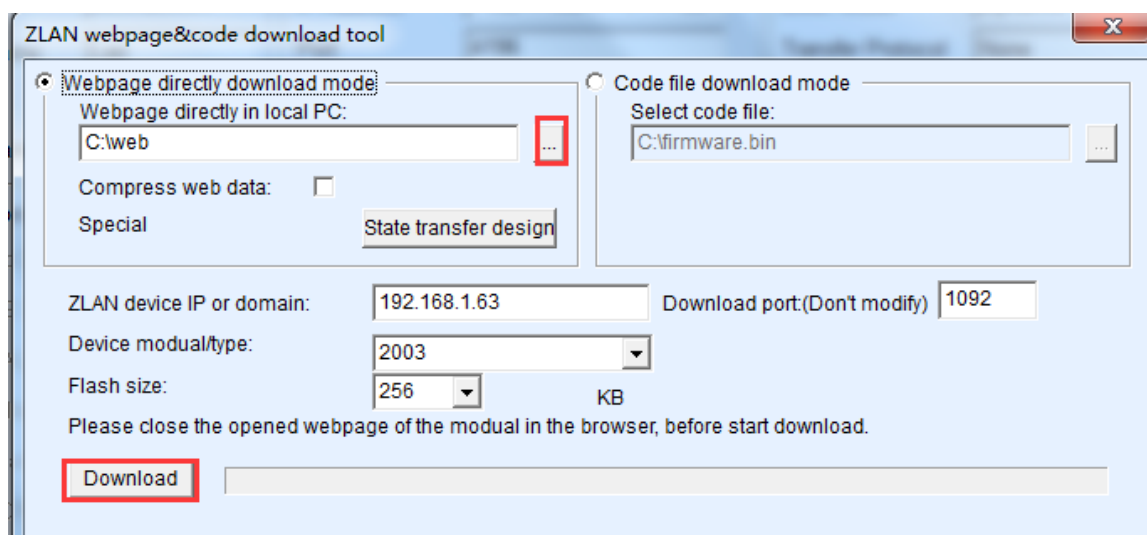

Figure 66 ZLSN2003 Web Upgrade Method
- 3) Select "Code file download mode" option as shown in figure 66. Select the firmware file in the program files. The IP address portion of the serial device server has been automatically filled out, no need to write again, the module type/model has been selected automatically. Then click download.
- 6) Web configuration interface update: after firmware upgrade, the internal configuration page of the module also needs to be updated, otherwise it cannot be configured through the Web, but it does not affect the communication. If no need the web configuration you can ignore the webpage download. The way to download the Web is: change the download mode of "code file" to "Webpage directly download mode" as shown in figure 66. And select the root directory that local web page in for the directory (the directory can be gained from ZLAN) of which the webpage needed to download in, click on the download, all the files in local web page directory will be downloaded to the file system inside the device.